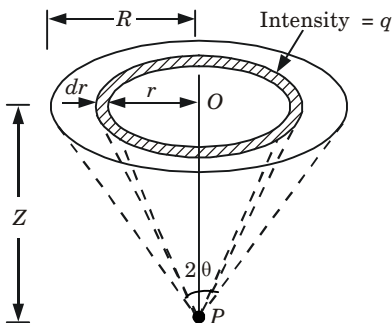

Fig. 11. Circular load.
1. Let us determine the vertical stress at the point P at depth Z below the centre of a uniformly loaded circular area as shown in the Fig. 11.